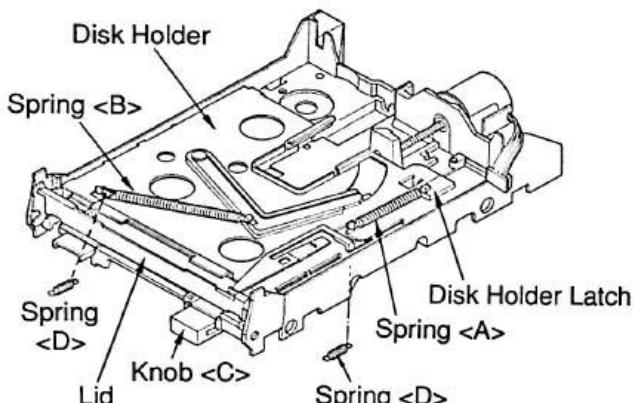

Figure 3
- 1) Remove one disk holder latch spring <A> and one holder lever spring  from the chassis unit as shown in Figure 3.
- 2) Push the knob and remove the disk holder assembly as shown in Figure 3.
- 3) Remove the disk holder latch and two disk holder springs from the disk holder assembly as shown in Figure 3.
- 4) Remove the lid from the disk holder assembly in Figure 3.